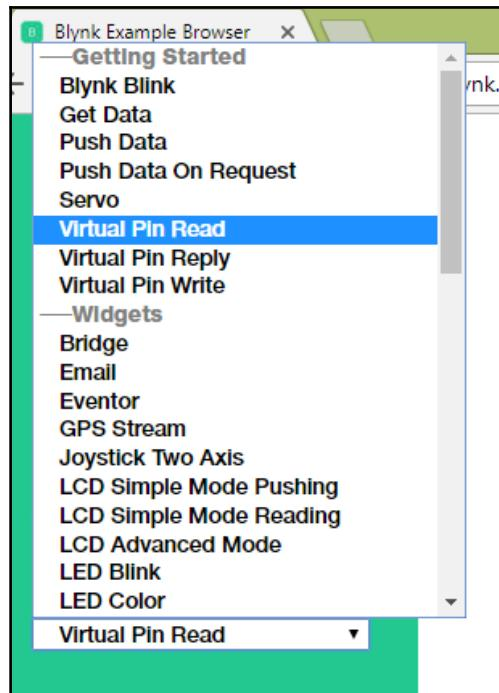

Figure 2.31: Selecting an example sketch
4. Choose **Virtual Pin Read** from the **Example** drop-down list (*Figure 2.31*):